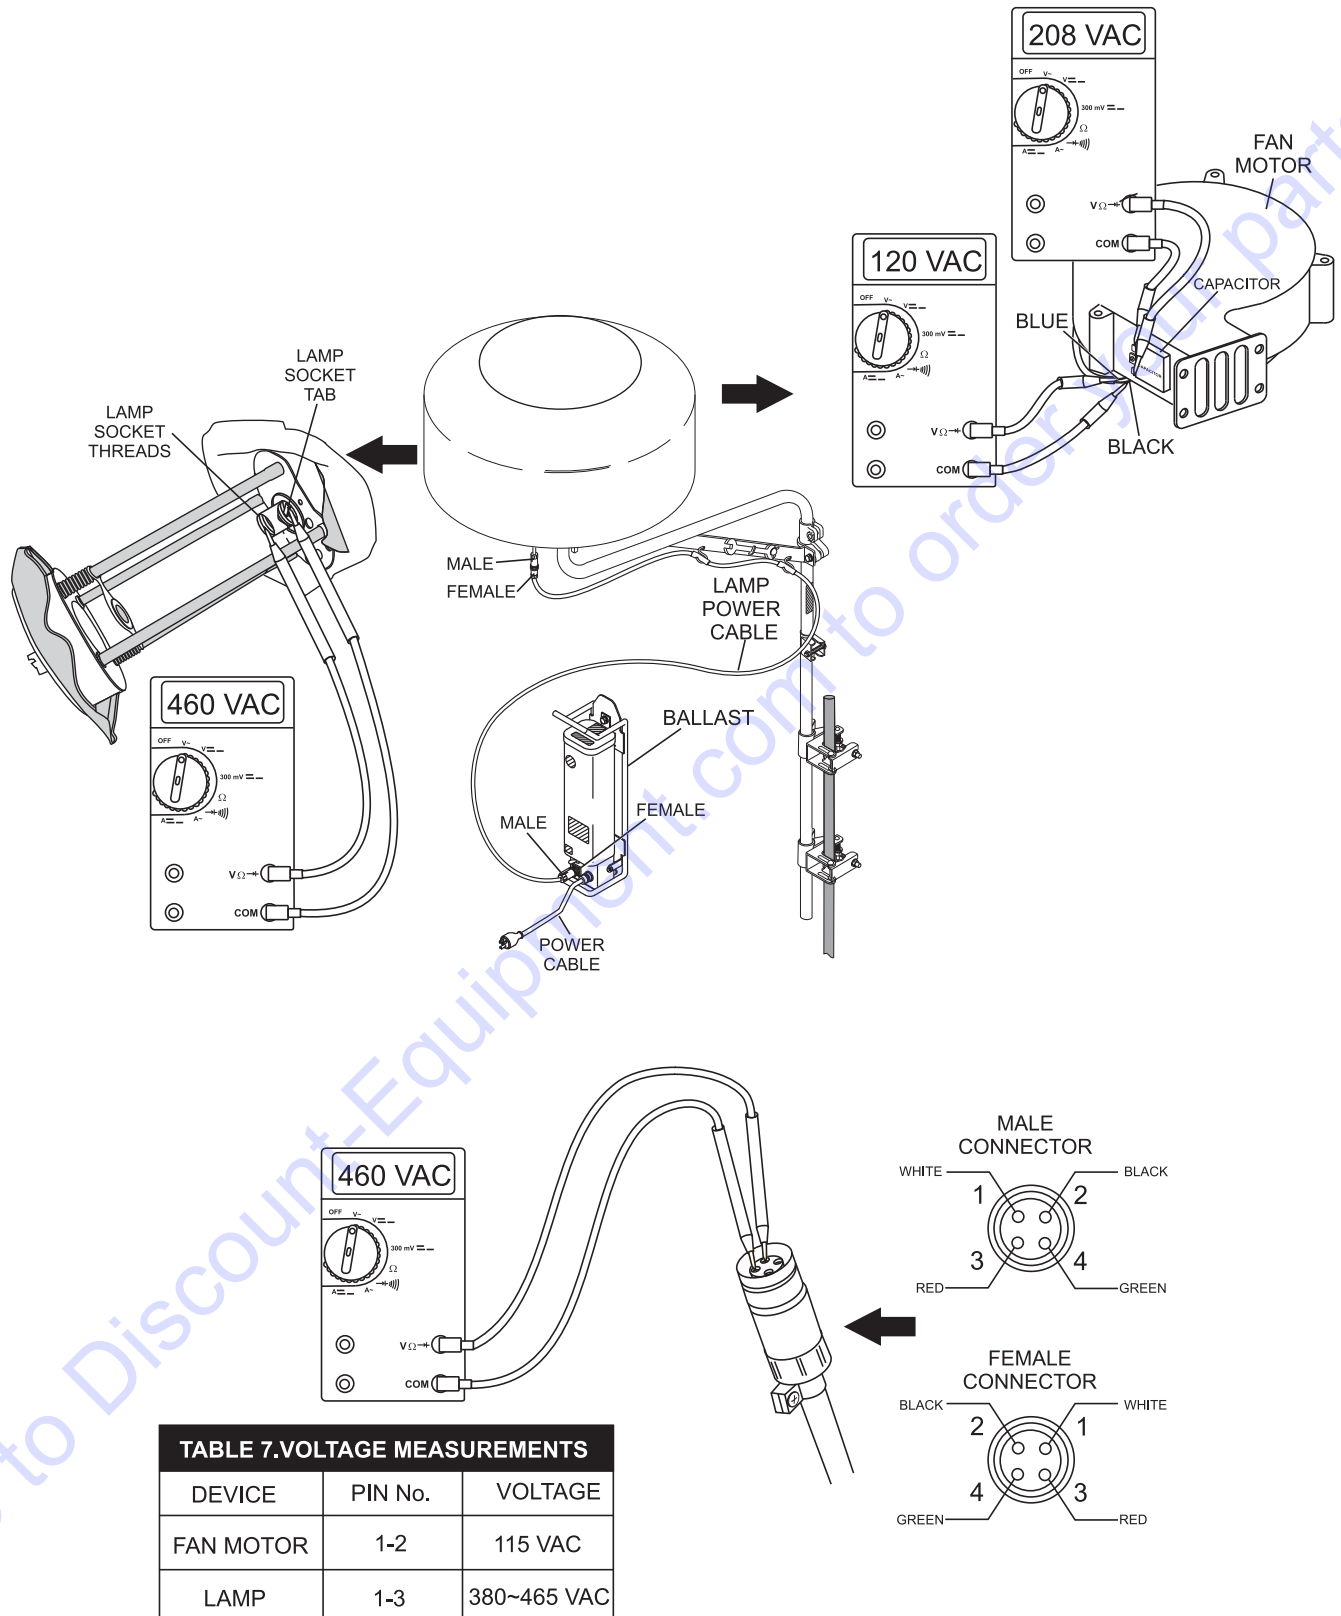

Figure 32. Voltage Measurements
4. Using a multimeter (Figure 32) measure the output voltage at the ballast receptacle. Pins 1-3 (lamp) should read between 380~465 VAC. Pins 1-2 (fan motor) should read 120 VAC.
4. If the fan motor is not running, use a multimeter and place one test lead on the black wire and the other lead on the blue wire as shown in Figure 32.